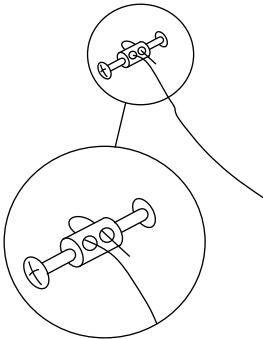

Fig 3
1. Thread the string through the holes and tighten the screws (Fig 3).